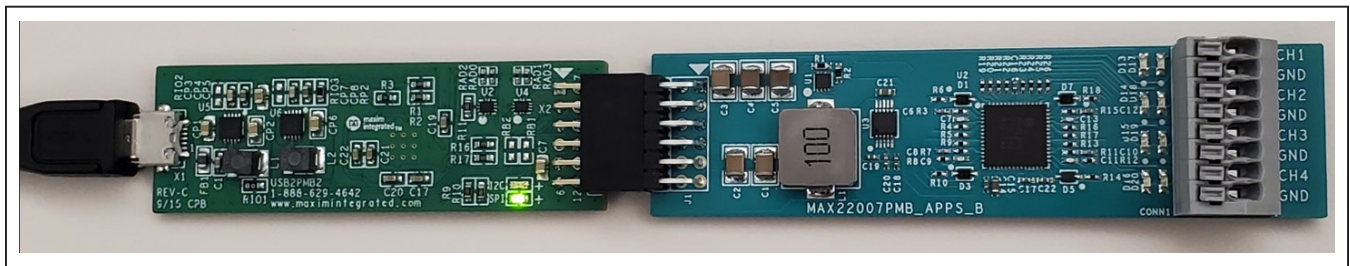

Figure 1. MAX22007PMB# Connected to a USB2PMB2# Adapter
- 4) Connect the MAX22007PMB# Pmod connector J1 to the connector on USB2PMB2# (see Figure 1).